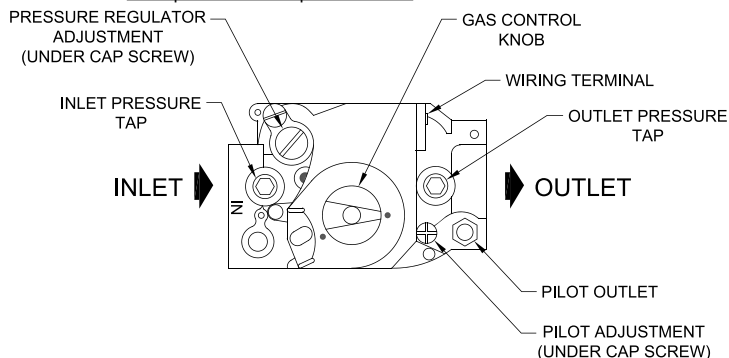

Figure 9-3: Top View of Gas Valves
2. PURGE AIR FROM GAS PIPING by loosening (or removing) "Inlet Pressure Tap" plug on gas valve (See Figure 9-3). Tighten (or replace) plug when you start to smell gas. Adequate ventilation must be provided and no smoking or open flame permitted.
- Install manometer on $\frac{1}{8}$ " outlet pressure tap on gas valve (see Figure 9-3). Use of shutoff valve between manometer and gas valve can prevent pressure surge that blows out manometer fluid.